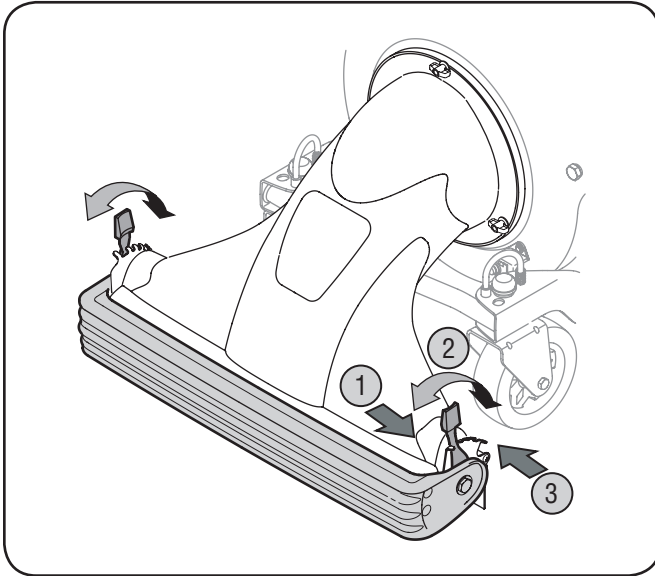

Figure 3-7
2. Slide the height adjustment lever forward or backward for adjusting the nozzle door upwards or downwards. See Figure 3-7.